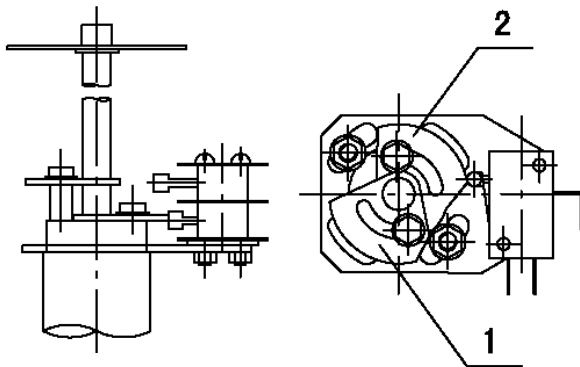
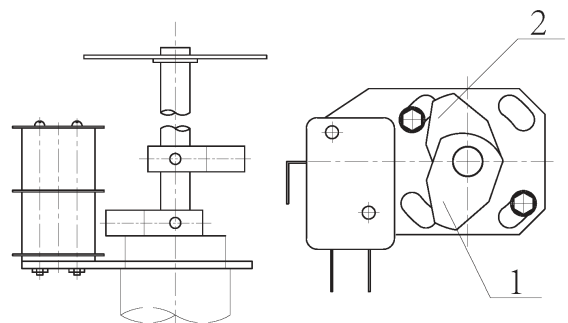

Fig.6 QT1-QT4 model
Fig.7 QT4/JS model
① To turn the Manual-electric switch handle to the manual operation mode, and to rotate handwheel clockwise until the valve is fully closed.
② To use L-spanner to unscrew the screw on the bottom cam(the limit switch in the close direction). See the diagram below.
③ To adjust cam to make it contact with bottom microswitch (hear clickety-clack), and then begin to screw the screw firmly.
④ Turn on the power; turn the "Open" button to get the valve operated in the open direction and then, to get the valve operated in close direction to examine if the Closing direction limit is correct. Repeat this action several times until requirement is met.
① To turn the Manual-electric switch handle to the manual operation mode, and to rotate handwheel clockwise until the valve is fully open.
② To use L-spanner to unscrew the screw on the cam (the limit switch in the open direction). See the Fig.6 or Fig.7.
③ To adjust cam to make it contact with the upper microswitch (hear clickety-clack), and then begin to screw the screw firmly.
④ Turn on the power; turn the "Close" button to get the valve operated in the close direction and then, to get the valve operated in open direction to examine if the Open direction limit is correct. Repeat this action several times until requirement is met.